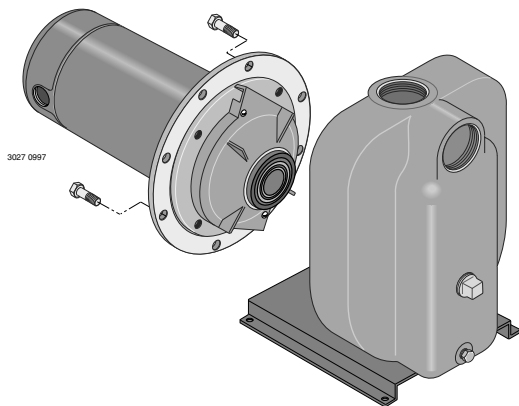

Figure 25 – Assemble Pump
Step 2. Slide motor/seal plate assembly into pump body. Secure with capscrews (Figure 25).